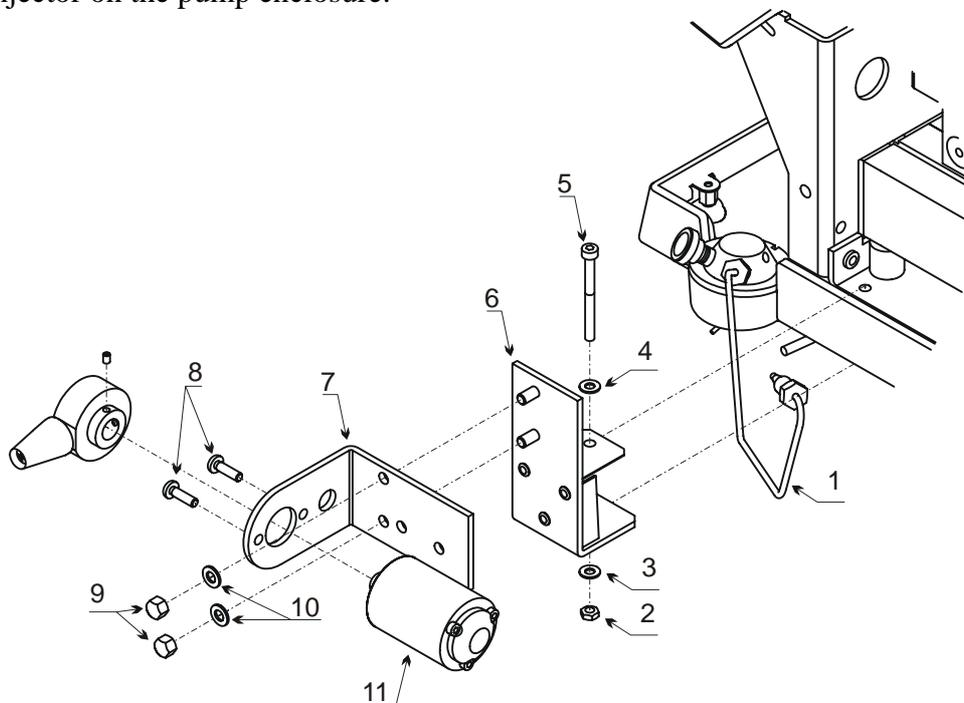

Fig. 40: Installing the manual injection valve
- Place the fixing bracket against the edge of the pump's floor panel (→ Fig. 40).
- To attach the fixing bracket, pass the attachment screw (→ Fig. 40, no. 5) (from above) through the fixing bracket and the pump's floor panel.
- Fasten the attachment screw (→ Fig. 40, no. 5) and tighten it using the locking nut (→ Fig. 40, no. 2).
- Fasten the injection valve to the fixing bracket. Make sure that the connection cable points to the pump enclosure. Tighten the injection valve onto the fixing bracket using two screws (→ Fig. 40, no.8).